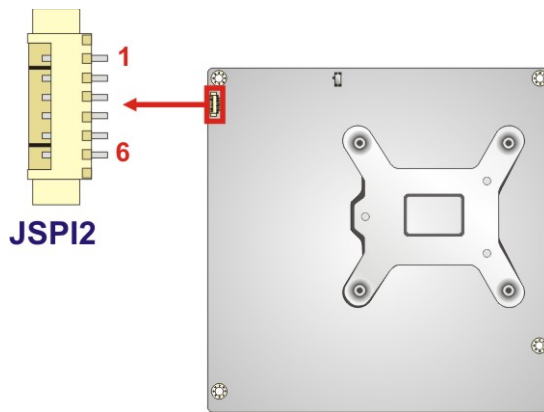

Figure 3-27: SPI EC Flash Connector Location
- CN Location:** See **Figure 3-27**